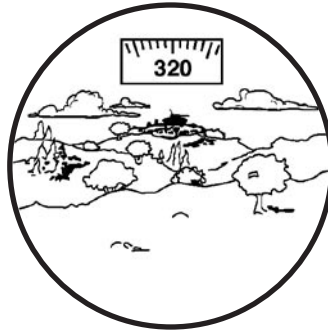

Figure 3-26. View Through Installed Compass
- (3) To view the compass through the monocular, grip the compass with your index finger on top and your thumb on the illumination button on the bottom. Press the button slowly with your thumb until the proper brightness is obtained. The image should appear as shown in Figure 3-26.
- (4) The compass readings should change when you move your head from side to side. Rotate or tap the compass slightly to ensure that the compass is operating correctly. Hold the monocular in a level position to assure free rotation of the compass scale.
- (5) The tick mark closest to the center of the lighted display is the compass bearing. The tick marks are in degrees, with longer tick marks every five degrees and bearing labels every 10 degrees.